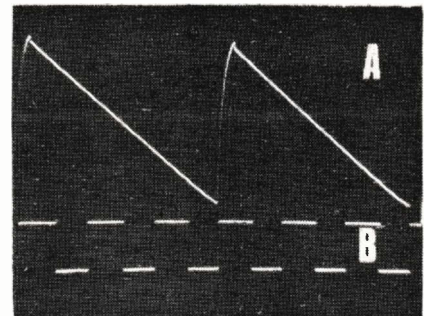

Fig.2. Time base waveform (A) against displayed square-waves (B) to show synchronisation. Text explains time relationship.
repetitive waveforms will appear as crowding together toward one side or the other of the display. An example of good linearity is shown in Fig.2 in which (A) is the timebase waveform and (B) an actual display of squarewaves of 1 kHz. The three complete cycles of square-waves are uniform in width and since 1 kHz is a time duration of 1 mS, the timebase is 3 mS. Note that the timebase is synchronised to the square-waves and good synchronisation is also important, particularly when examining coincident waveforms.